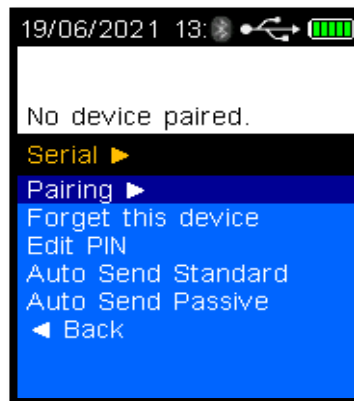

Figure 99 Serial Menu
- Press the test key, the Serial screen will be displayed (Refer Figure 99).